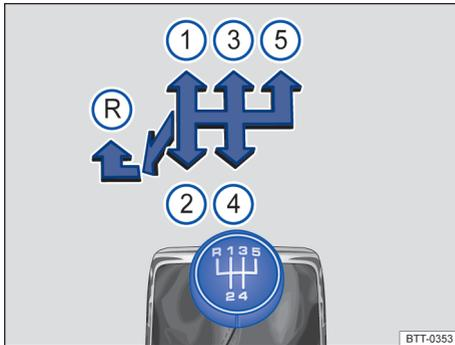

Fig. 84 Gear shift pattern of a 5-speed manual gearbox.
Each gear's positions are illustrated in the gear lever → Fig. 84.
- Push the gear lever fully to the left and then to the front in the reverse gear position → Fig. 84 (R).